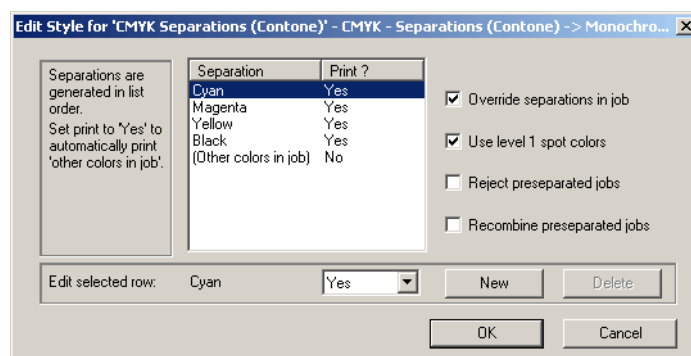

Figure 13.11 Edit Style dialog box
- Otherwise, a more compact dialog box displays only the options for separations, as shown in Figure 13.11. This form of the dialog box suits contone output and also output to devices and processes that do their own screening.
This dialog box contains a list showing the separations that the RIP can produce. There are initially separations for the process colors in the selected color space. In Figure 13.11 there are separations for the four process colors in the CMYK color space.